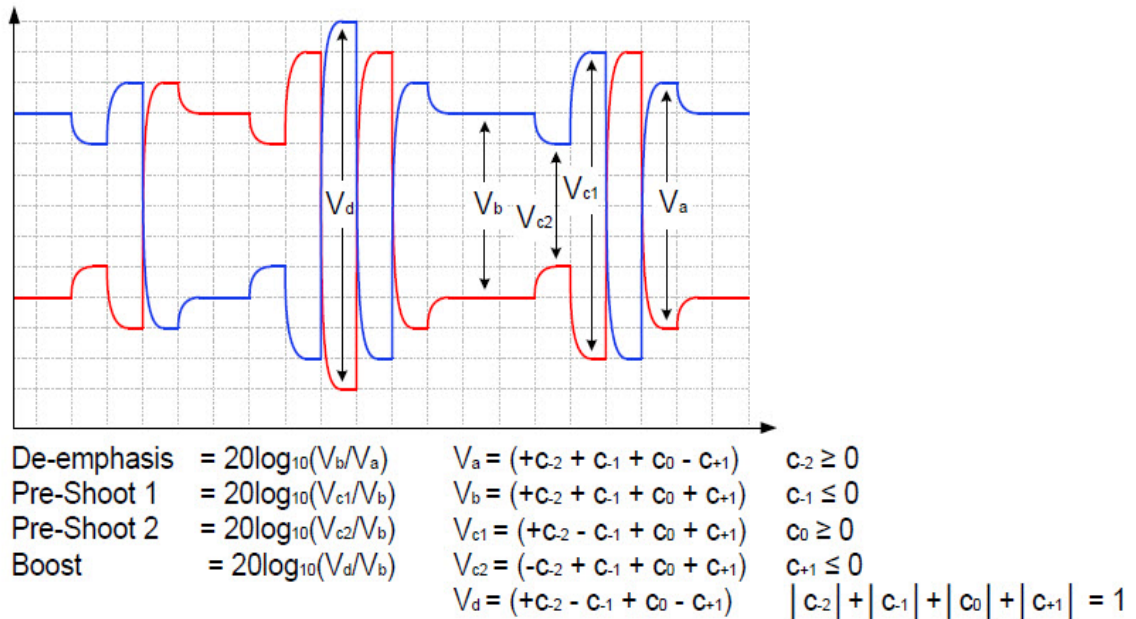

Figure 22 Waveform measurement points for preshoot and de-emphasis
64.0 GT/s PCIe signaling must support the full range of presets given in Table 8-2 (PCIe Base Specification Revision 6.0). Presets are defined in terms of ratios, relating the pre-cursor and post-cursor equalization voltages. The pre-cursor (Vc) is referred to as pre-shoot, while the post-cursor (Vb) is referred to as de-emphasis. This convention permits the specification to retain the existing 2.5 GT/s and 5.0 GT/s definitions for Tx equalization, where only de-emphasis is defined, and it allows preshoot and de-emphasis to be defined such that each is independent of the other. The tolerances in Table 8-1 (PCIe Base Specification Revision 6.0) also apply to 2.5 and 5.0 GT/s de-emphasis. The maximum swing, Vd, is also shown to illustrate that, when both c₊₁ and c₋₁ are nonzero, the swing of Va does not reach the maximum as defined by Vd. The high frequency nature of PCIe signaling makes measurement of single UI pulse heights impractical. Consequently all amplitude measurements are made with low frequency waveforms as shown in Figure 22.
- 13 Computes their equalization voltages by using Matlab, and then calculates equalization ratios by using the formulae stated in Figure 22 (Figure 8-6 of the spec).